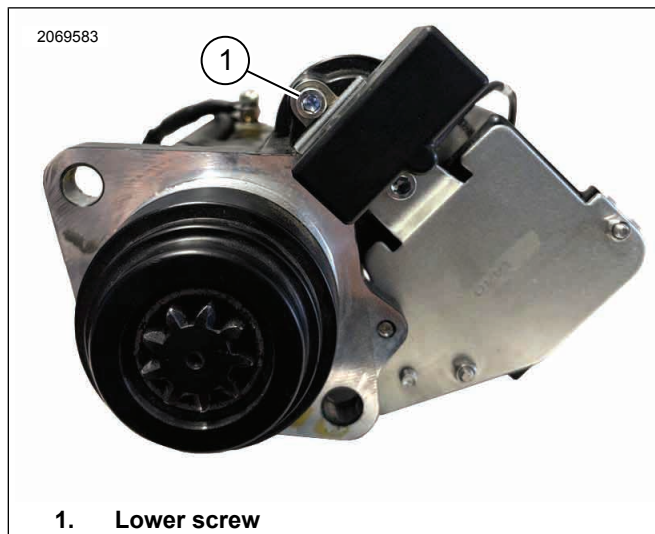

Figure 39. Lower Screw Location
See Figure 39. **DO NOT** remove lower screw (1) securing solenoid when servicing or replacing electrical kit.